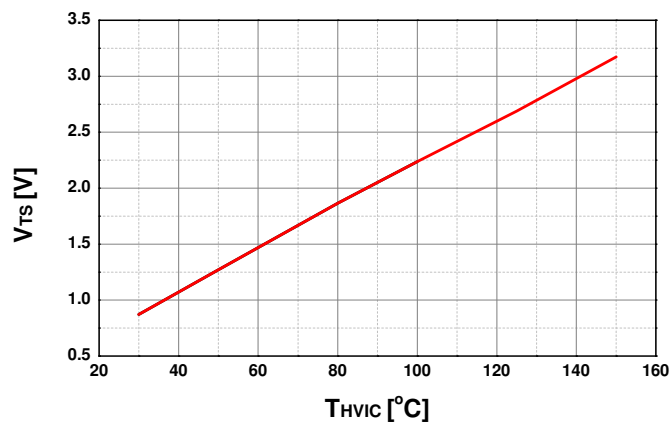

Figure 6. Temperature Profile of V_{TS} (Typical)
5. t_{ON} and t_{OFF} include the propagation delay of the internal drive IC. Listed values are measured at the laboratory test condition, and they can be different according to the field applications due to the effect of different printed circuit boards and wirings. Please see Figure 6 for the switching time definition with the switching test circuit of Figure 7.